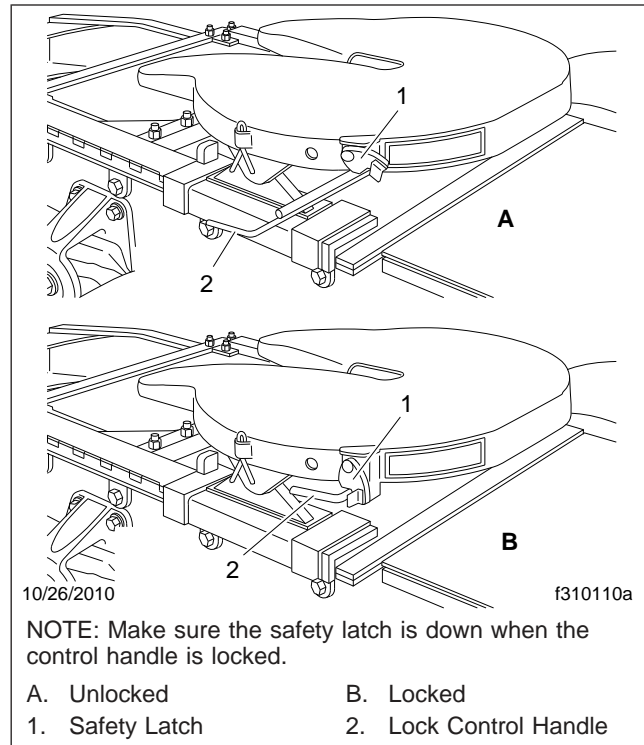

Fig. 10.17, Fontaine Fifth Wheel, Locking and Unlocking
- Make a visual and physical check for positive kingpin lockup. When lockup has occurred, the fifth wheel control handle will have moved to the locked position. Make sure that the safety latch is down over the lock control handle. See **Fig. 10.17**. This will hold the control handle in the locked position.
6. Release the kingpin locking mechanism by lifting the safety latch and pulling the lock control handle to the unlocked position. See Fig. 10.17.